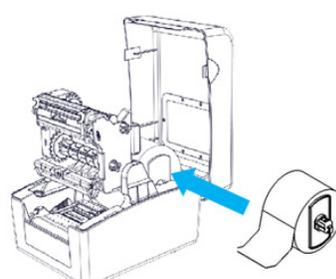

Figure 2.2.5
- 4) Place the paper roll mounted on the paper roll holder into the paper cabinet, then pull out the front end of the paper and lay it flatly in the print path, then pass the paper under the buffer shaft and clamp it with the left and right paper blocks (see Figure 2.2.5).